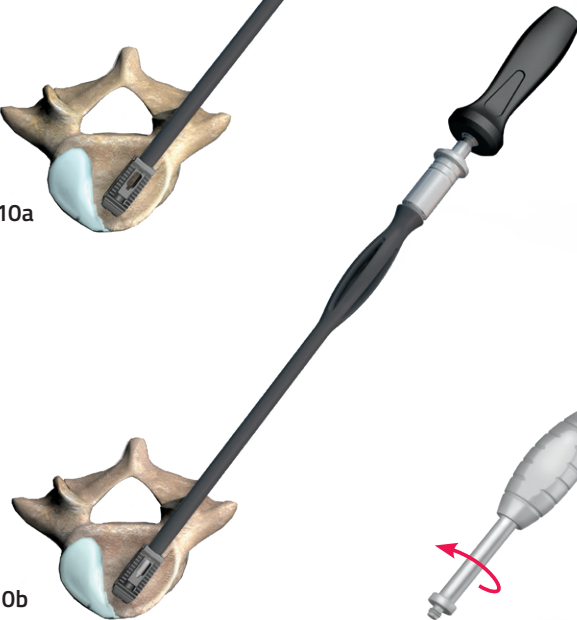

Fig. 10b
3. Use the **Implant Remover Driver (28-1004)** attached to the Handle (MA101000-A or TA101000) from Evolution-C kit to reduce expansion of the FORZA XP spacer to its original height **(Fig. 10b)**.